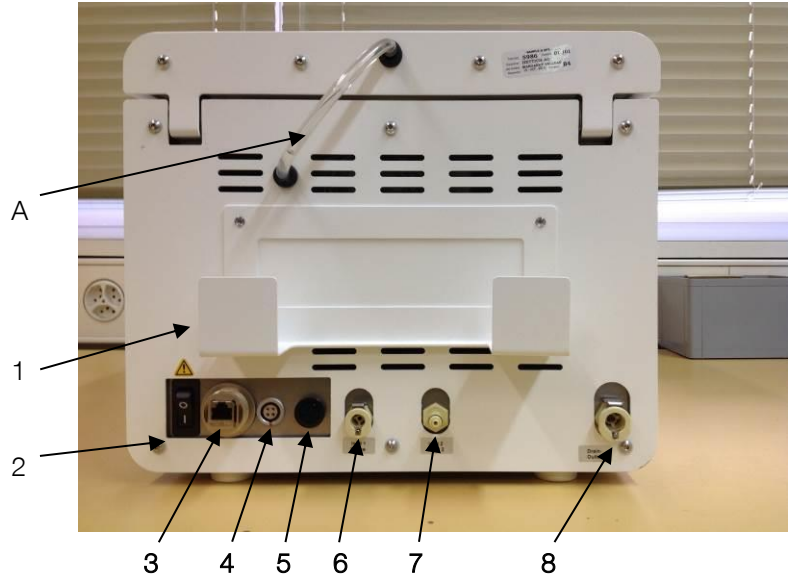

figure 7.1
If the storage environment was outside the working environment, then you must allow the device to acclimatise to the new environment for 24 hours without connecting to the power (fig. 7.1 pos. 4)
Please observe chapter 3.2.6 before starting the installation. Install the power supply in its mounting bracket on the rear side, see fig. 7.1 pos. 1 and plug the connector to the DC input, pos. 4 on the fig. 7.1. Plug the provided main power cable into the power supply and the other side to the power source.
Plug the connector from the fill hose to the inlet 1 on the rear side, see on fig. 7.1 pos. 6, and dip the other side with the metal-part into the container with the saline solution.
If your device has the optional inlet 2, plug the connector from the fill hose 2 to the inlet 2 on the rear side, see on fig. 7.1 pos. 7, and dip the other side with the metal part into the container with the fluid 2 solution.
If you are working with the optional PC software for the history, you must install a patch cable, cat. 5a or higher, to the Ethernet interface, see on fig. 7.1 pos. 3, and the other side of the local interface or directly to a computer. Refer also to the separate manual for that software.
Plug the connector from the drainage hose to the outlet on the rear side, see on fig. 7.1 pos. 8, and put the other side into the waste.
Push the ON / OFF main switch, fig. 7.1 pos. 2, to the ON position. The start initialization needs approx. one minute.